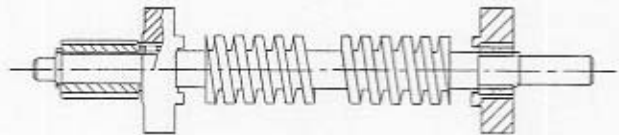

Fig. 8-3
1. Mesh rotors together and reinstall bearing brackets and bearings so that the rotor assembly is set up as shown in the following sketch (Fig. 8-3)